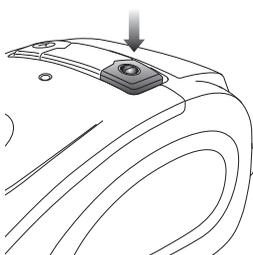

Fig. 4
- 4 Press the On/Off Button once to turn the vacuum "On". (Fig. 4)